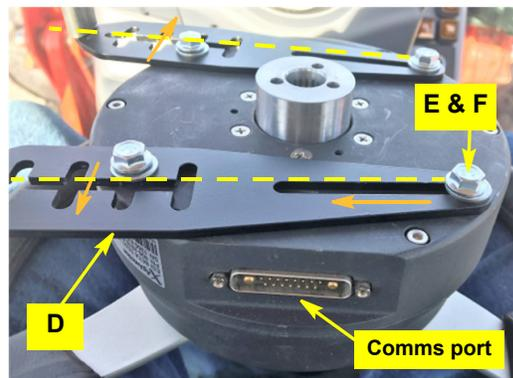

Figure 2: Installing the anti-rotation brackets
- a. Invert the steering wheel assembly and set the comms port toward you (it will be to the front when installed - Figure 2).
- b. On the motor base, arrange brackets **D** as follows (Figure 2):
- c. Using screws **E** with washers **F**, loosely attach brackets **D** to the motor base with the tapered end of the long slot against the bolt in the right-side holes (as viewed): this aligns the second cross-slot of each bracket with the left-side holes. Set the cross slots with their inner edges against their respective bolt (making the brackets diverge slightly toward the left - Figure 2).